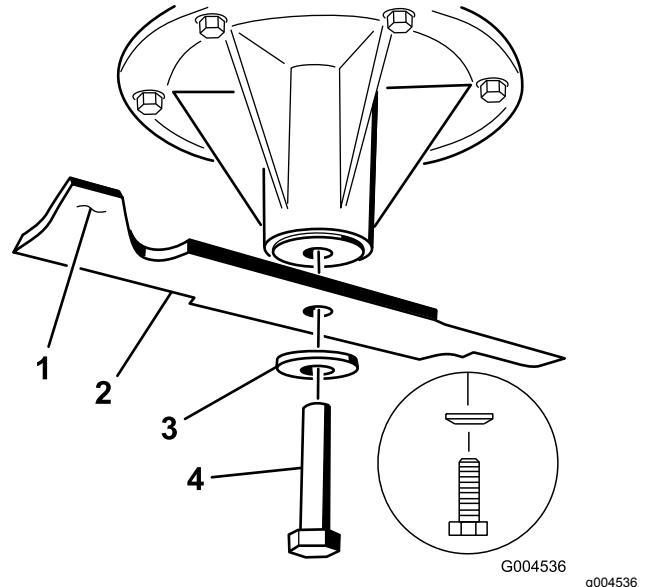

Figure 94
1. Install the blade onto the spindle shaft (Figure 94).
2. Install the spring disk and blade bolt (Figure 94).